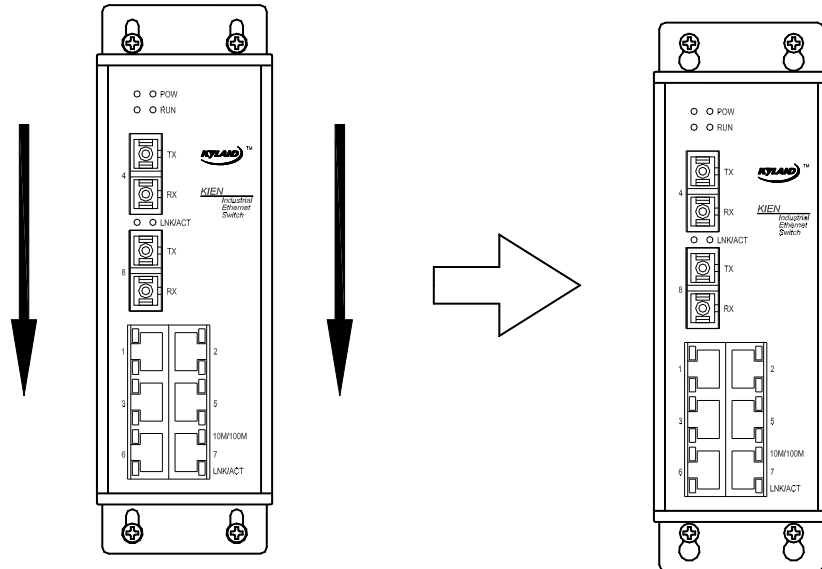

Figure 4-5 Schematic diagram for wall-mounting process
- 4 . After fastening the screws on the wall, mount KIEN6000 in the selected position. Pass the four screws through the four $\Phi 65$ holes on the wall-mounting plate and slip KIEN6000 downwards, as shown in Figure 4-5. Fasten the four screws. KIEN6000 has now been fastened on the wall or inner wall of cabinet.